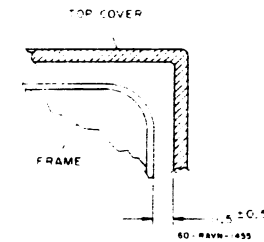

Figure 3. Adjusting the Right Side of Top Cover to Frames
4. ADJUST COVER SO THAT DISTANCE FROM RIGHT SIDE OF FRAME IS  $11.5 \pm 4.5$  mm AT FRONT AND REAR FRAMES (FIGURE 3).